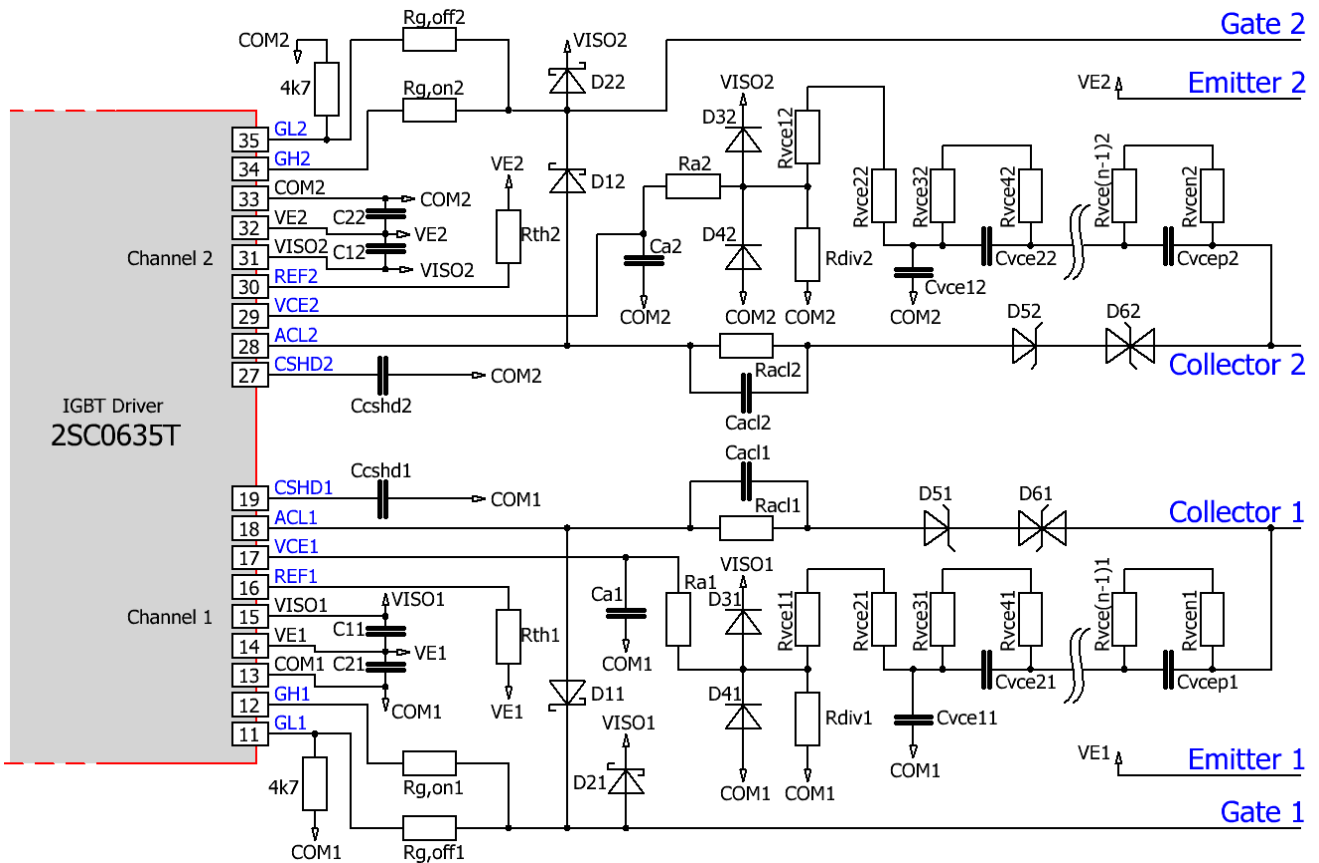

Fig. 7 Recommended user interface of 2SC0635T (secondary sides)
It is recommended to insert an external capacitance of 9.4µF between the VISOx and VEx terminals (C_{1x} in Fig. 7) to drive IGBT modules with a gate charge of up to 4.7µC.
- 4µF per 1µC between VISOx and VEx (C_{1x} in Fig. 7) as well as
- 2µF per 1µC between VEx and COMx (C_{2x} in Fig. 7)
The collector sense must be connected to the IGBT collector with the circuit shown in Fig. 7 in order to detect an IGBT overcurrent or short circuit.